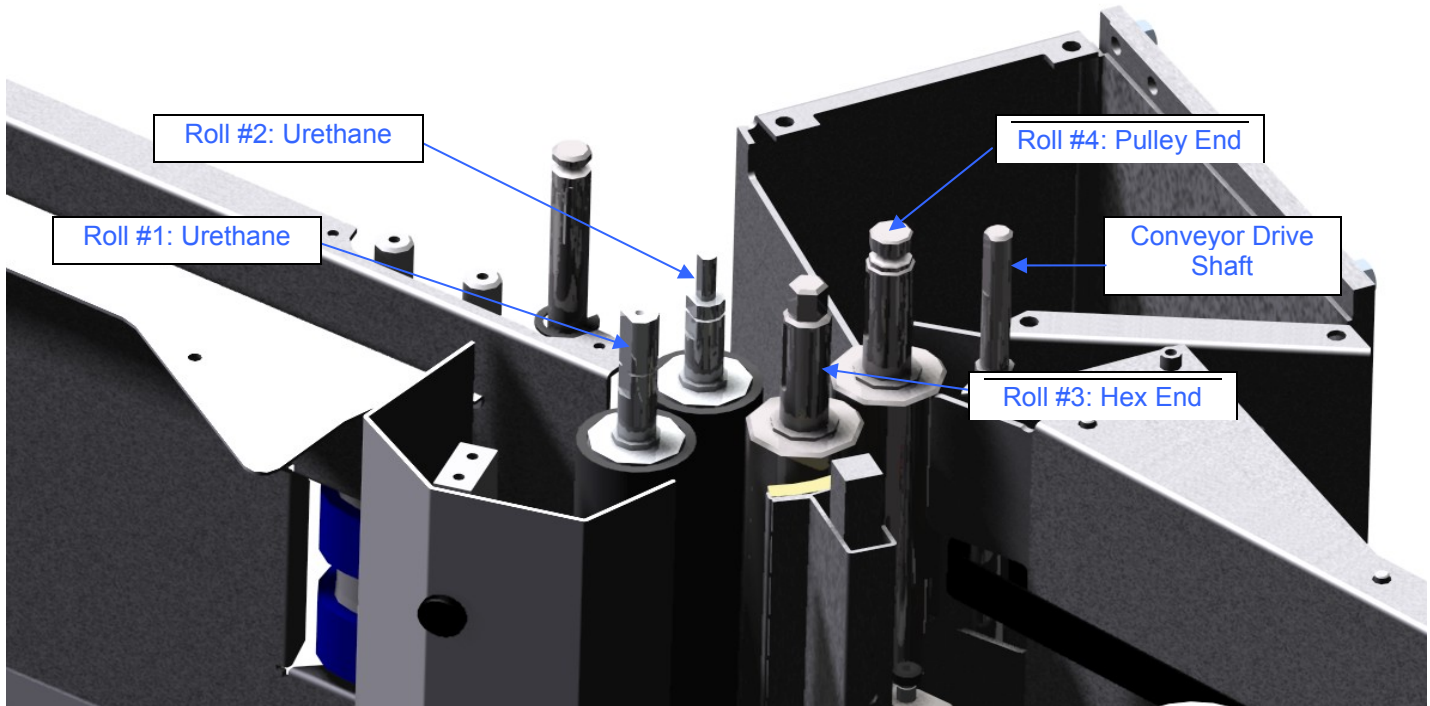

Figure 5: Servicing the Rolls
2. You will now be able to remove any roll that you need service [Figure 5].
4. Remove the **Conveyor Drive Shaft** [Figure 5].